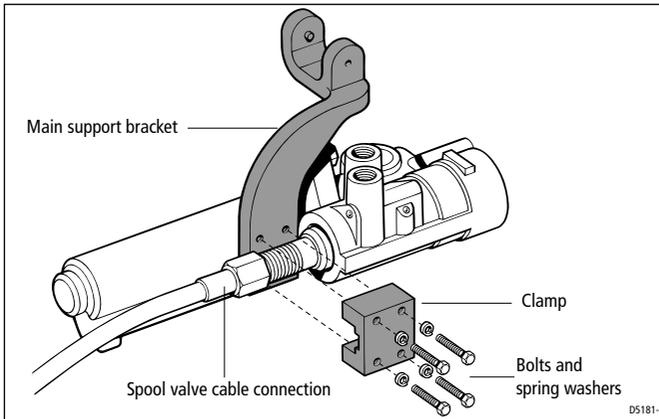

Figure 11: Fitting the main support bracket (MerCruiser 95)
3. Fit the main support bracket to the spool valve cable connection on the steering system (see *Figure 11*):